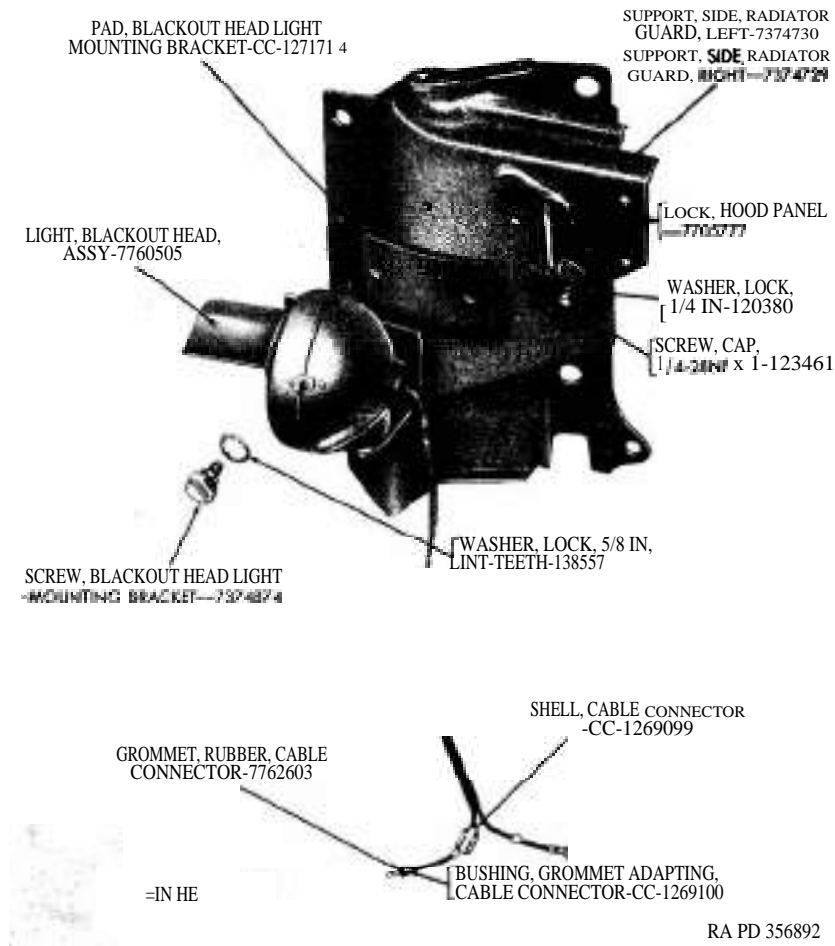
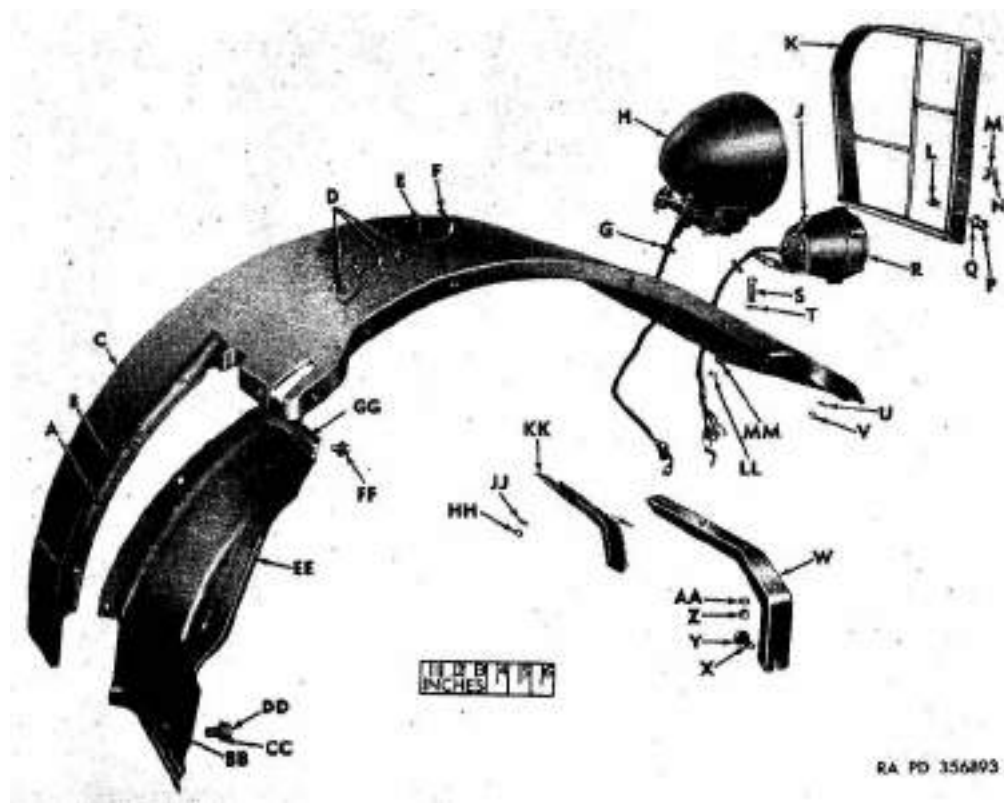

Figure 219. Radiator guard left side support, blackout headlight assembly, and hood panel lock.
Figure 220. Front fender and related parts.
- (5) Remove cable connector rubber grommet (fig. 219), cable connector grommet adapting bushing (fig. 219), and cable connector shell (fig. 219) from blackout headlight cable. Remove cable split grommet (G, fig. 220) from fender and withdraw blackout headlight cable.
- (6) Remove six cap screws and lock washers each side to separate right and left fender splash shield assemblies from right and left front fender assemblies.
- (7) Remove three nuts and lock washers each side ; then remove right and left cable covers (KK, fig. 220) from underside of fenders. Remove service headlight cables
- (8) Remove two cap screws (X, *fig. 220*) and lock washers (Y, *fig. 220*) (each side) ; this will release each front fender front support (W, *fig. 220*) from radiator support.
- (9) Remove right and left front fender assemblies.
- (10) Remove one cap screw and lock washer (each side), which attach lower front corner of fender splash shield to radiator guard side support. Remove right and left splash shields.
Note. The key letters noted in parentheses are in figure 220, except where otherwise indicated.